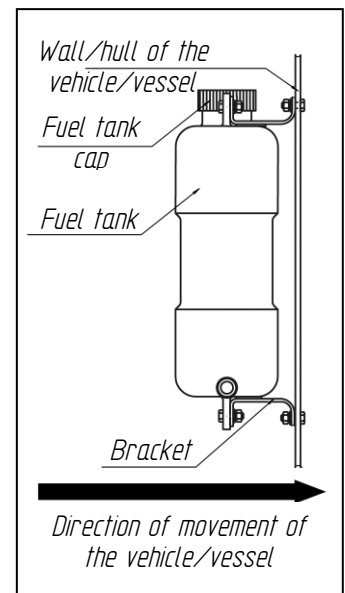

Fig. 16 Installation of the fuel tank
Consider convenience of fuelling, when installing the fuel tank (Fig.16). Install the fuel tank in such a way that the amount of fuel and its potential leaks from the inlet, fuel suction nozzle or connections can be visually controlled.
**Fuel tank must be installed with its wide side perpendicular to the direction of the movement of the vehicle/vessel (see Fig. 16).**